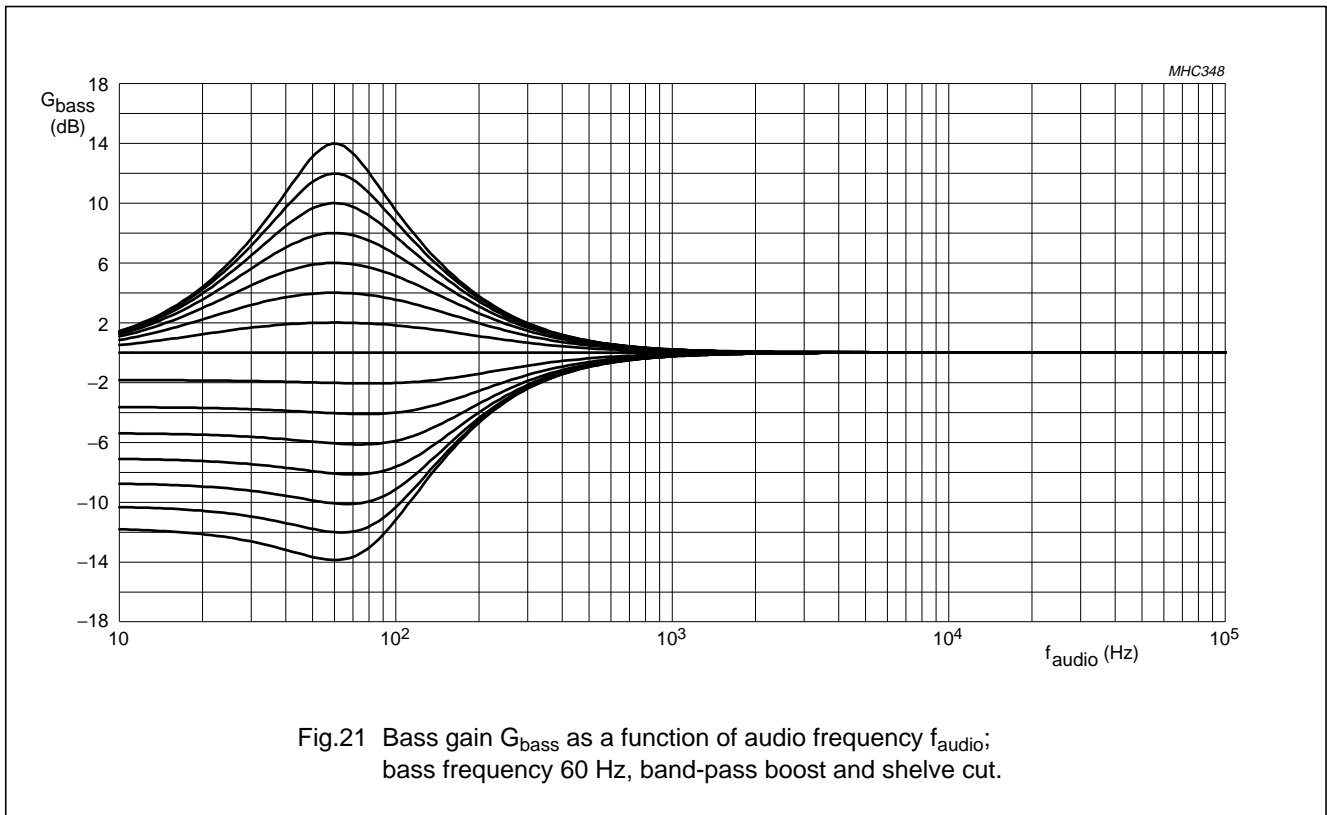

Fig.21 Bass gain  $G_{\text{bass}}$  as a function of audio frequency  $f_{\text{audio}}$ ; bass frequency 60 Hz, band-pass boost and shelve cut.
**Table 79** Description of data byte FH, see Figs 21 and 22